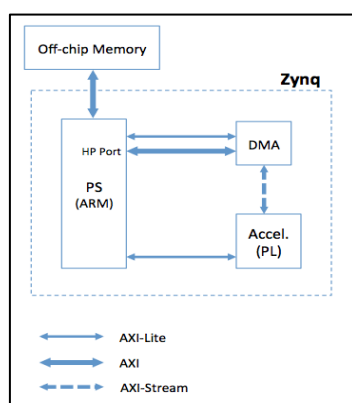
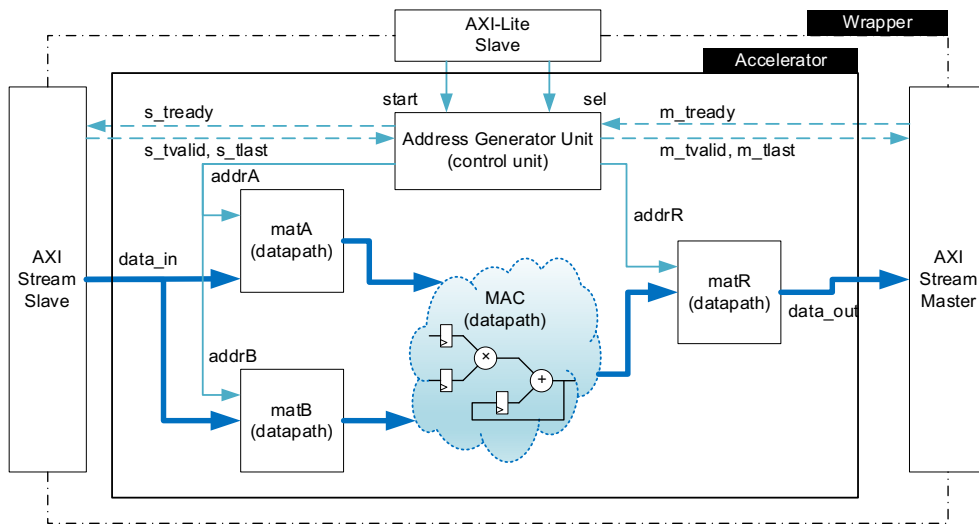

Figure 1 Zynq with accelerator
Figure 2 Accelerator micro-architecture
In this lab, we will not be designing the whole system. Instead we will only deal with designing and testing the accelerator (shown as “Accel. (PL)” in Figure 1), with a focus on the AXI bus communication. We will provide a design skeleton and all you need to
The micro-architecture of the accelerator you will be working on (shown as “Accel. (PL)” in Figure 1) is given in Figure 2.
- S\_LOAD\_A: Load matrix A from the AXI stream bus. This state should generate controlling signals for the AXI stream slave interface in Figure 2 as well as addresses for matA during matrix loading.
- S\_LOAD\_B: Load matrix B from the AXI stream bus. Again, this state should generate controlling signals for the AXI stream slave interface in Figure 2 as well as address for matB during matrix loading.
- S\_OUTPUT: Output matR to the AXI stream master interface in Figure 2 after the whole matrix multiplication is done.